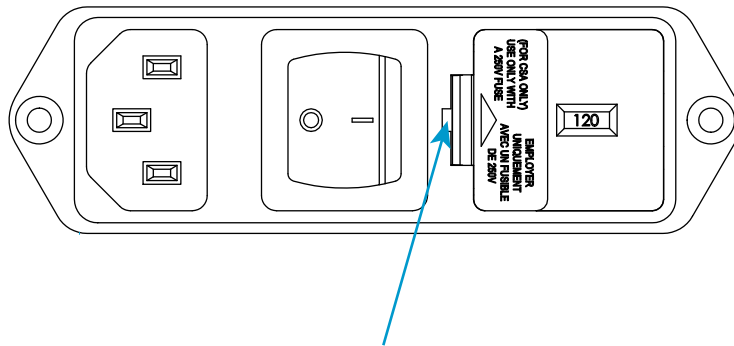

Figure 5. Prying out the fuse holder
1. Ensure that the power switch is in the Off (0) position and disconnect the power cable from the power source. Verify that no LEDs are illuminated on the indicator panel.
2. Insert a small flat-head screwdriver into the slot indicated in Figure 5 on page 42 and pry out the fuse holder.